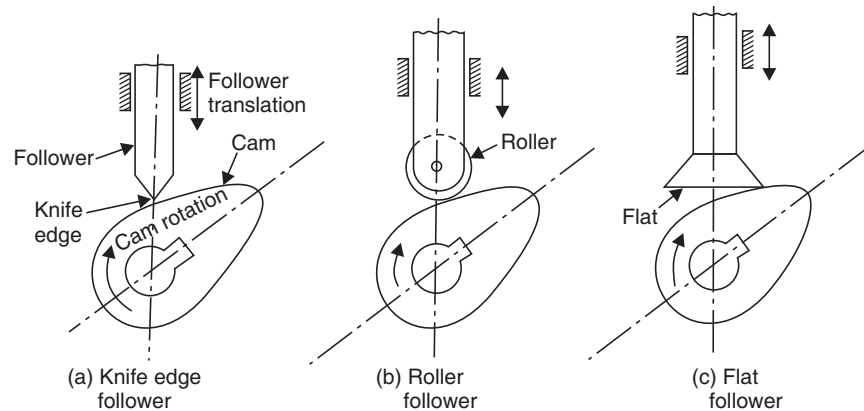

FIGURE 9.10. Type of followers.
1. Knife-edge follower [Fig. 9.10 (a)];
2. Roller follower [Fig. 9.10 (b)]; and
3. Flat faced follower or mushroom follower [Fig. 9.10 (c)].